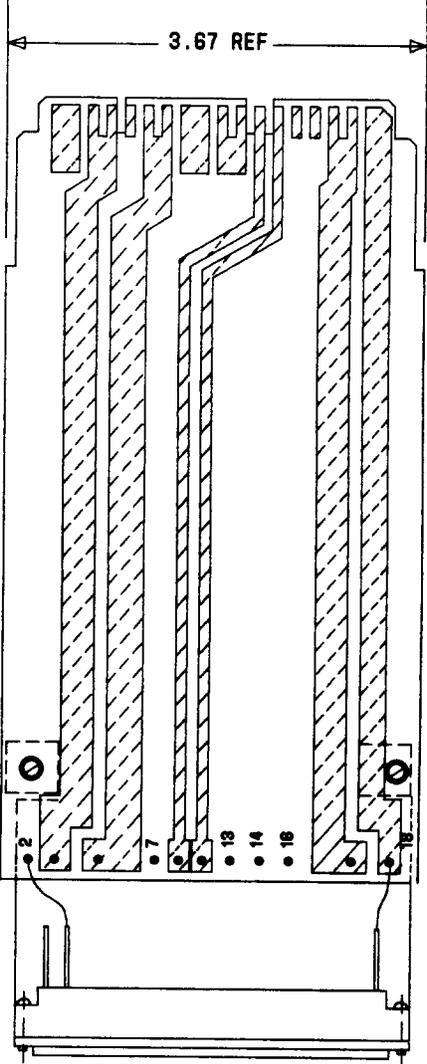

Fig. 4—20A Extender
2.09 20A: The 20A extender (Fig. 4) is used with a 23A shelf to permit the 132AE power unit to be extended 8.37 inches out of its normal position in the 80C apparatus mounting for testing and adjusting in the field.